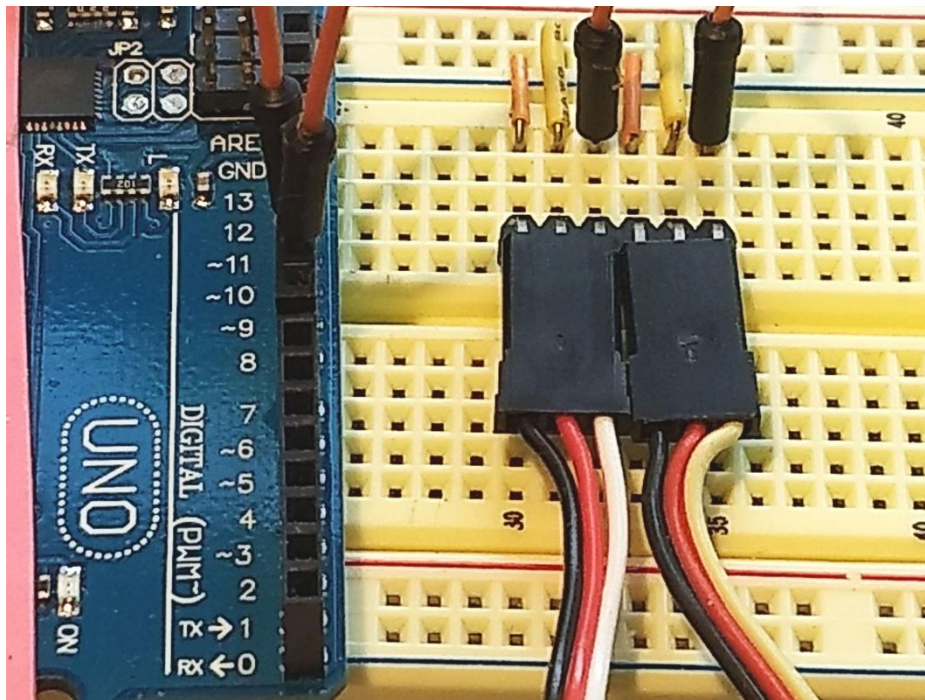

Figure 13. Connecting servo motor wire harnesses.
5. Plug the wire harnesses from the servo motors into the bent six-prong connector, as shown in Figure 13. **NOTE: Be sure to align the white, red, and black wires from left to right, as shown. (Black to ground, red to power white to the Arduino.)** Also, be sure to plug the wires from the left motor onto the left side of the connector, and the wires from the right motor onto the right side of the connector.